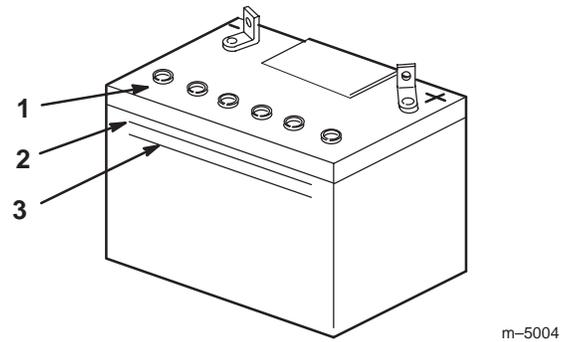

Figure 61
2. Look at the side of the battery. The electrolyte must be up to the **upper** line (Fig. 61). Do not allow the electrolyte to get below the **lower** line (Fig. 61).
- Remove the vent caps from the battery (Fig. 61).
- Slowly pour distilled water into each battery cell until the level is up to the **upper** line (Fig. 61) on the battery case.
- Wait five to ten minutes after filling the battery cells. Add distilled water, if necessary, until the electrolyte level is up to the **upper** line (Fig. 61) on the battery case.